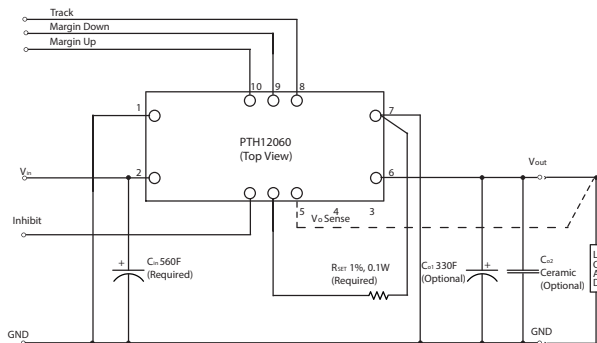

Figure 5 - Standard Application - All Models
- The pk-pk output ripple voltage is measured with an external 10 µF ceramic capacitor. See Figures 5 and 8 for Standard application schematic.